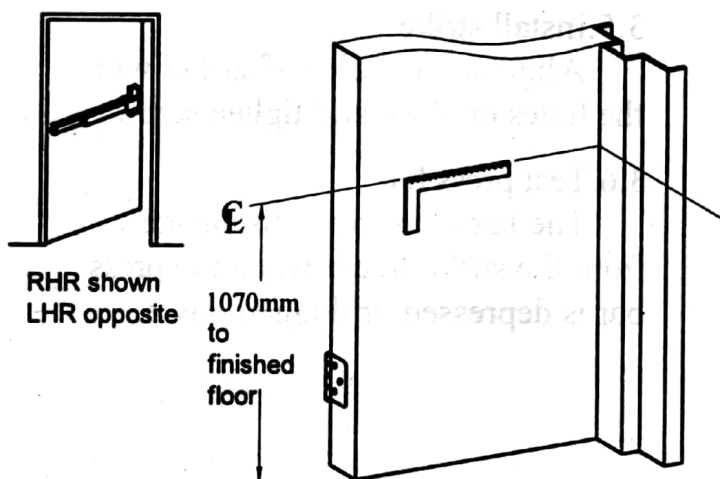

Figure 1-1
3.1. Mark centerline  $\mathcal{C}$  location as shown in Figure 1-1.